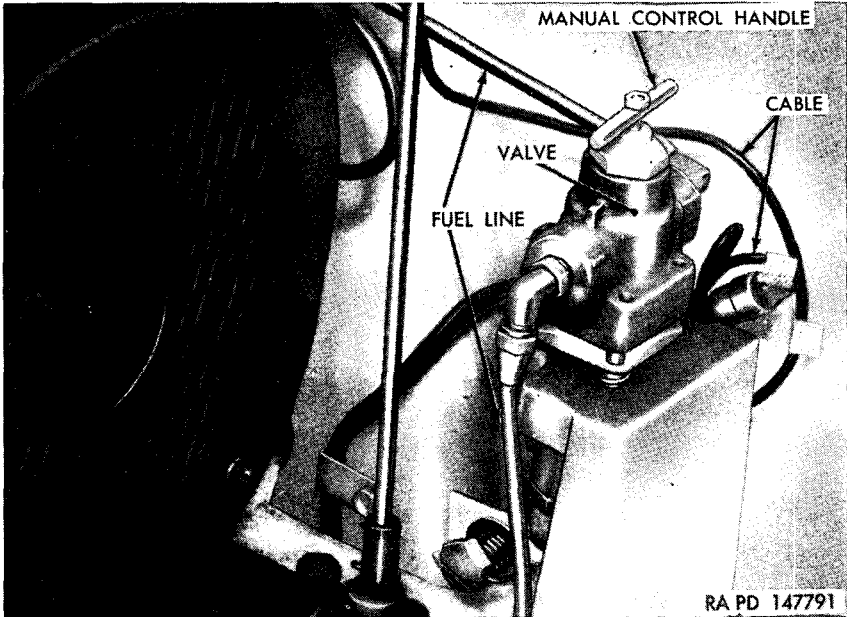

Figure 314. Auxiliary engine fuel shut-off valve—installed view.
a. **REMOVAL OF FUEL SHUT-OFF VALVE** (fig. 314). Close fuel tank shut-off valves (par. 17). Open five engine compartment right grille doors (fig. 101). Disconnect fuel shut-off cable at valve. Disconnect
b. **INSTALLATION OF FUEL SHUT-OFF VALVE** (fig. 314). Position fuel shut-off valve and clamp on mounting bracket and install two lock washers and mounting bolts. Connect cable connector and valve inlet and outlet fuel lines. Close five engine compartment right grille doors (fig. 101). Open fuel tank shut-off valves (par. 17).
c. **REMOVAL OF FUEL LINES**. Open five engine compartment right grille doors (fig. 101). Close auxiliary engine fuel shut-off valve (fig. 314). Disconnect fuel line at shut-off valve and fuel pump (figs. 309 and 310). Disconnect pump-to-filter line at pump outlet and at fuel filter (fig. 310).